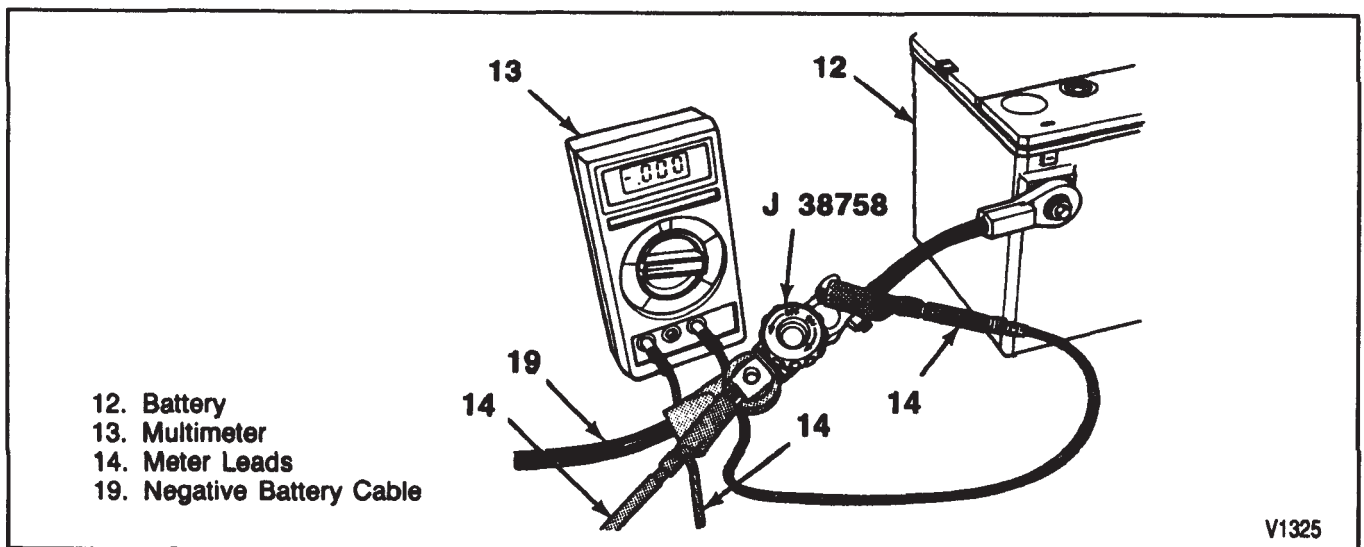

Figure 6—Current Drain Tool Installed
2. Install the male end of J 38758 to the negative battery terminal (figure 6).